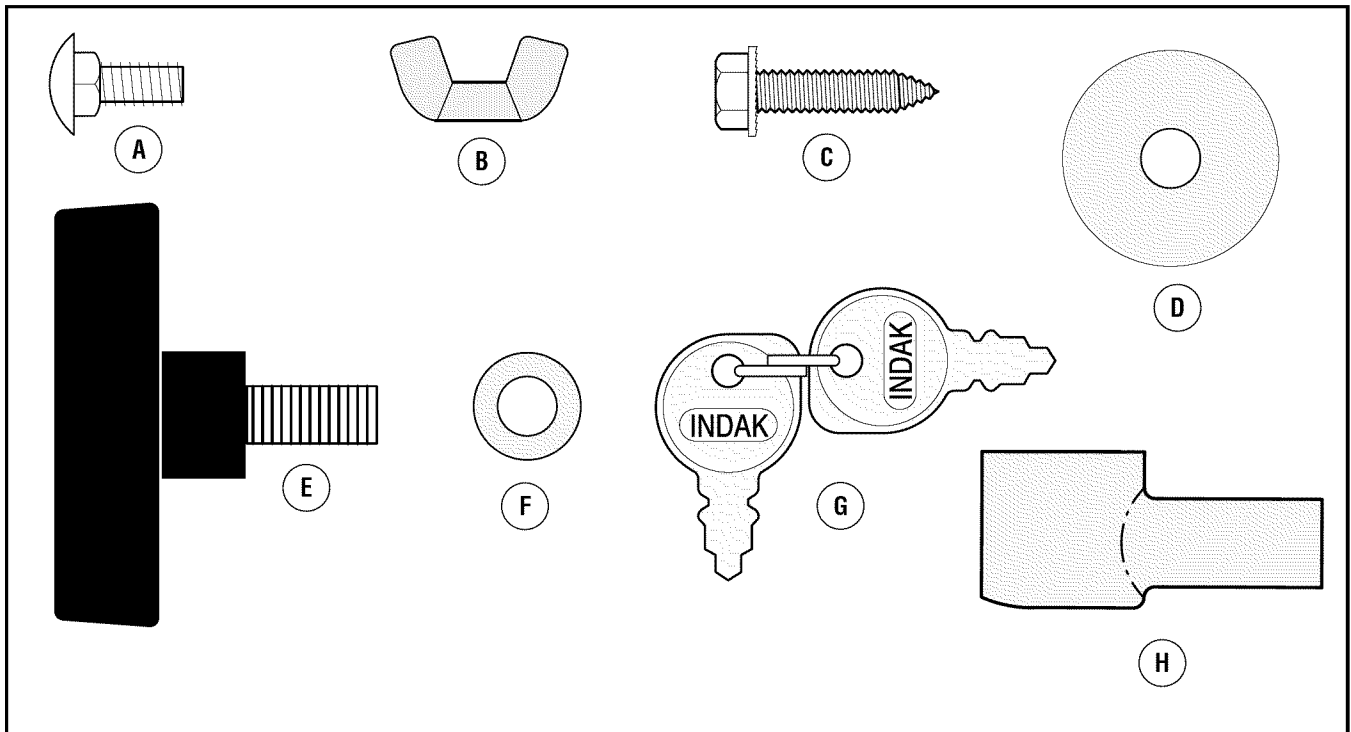

Figure 3: Parts bag components
- A - Wing bolt (Also see 'E' in Figure 3)
B - Washer (Also see 'F' in Figure 3)
- A - Screw (Also see 'C' in Figure 3)
B - Washer (Also see 'D' in Figure 3)
- A - Carriage bolt (Also see 'A' in Figure 3)
- B - Wing nut (Also see 'B' in Figure 3)
- H - Terminal cover (Also see 'H' in Figure 3)